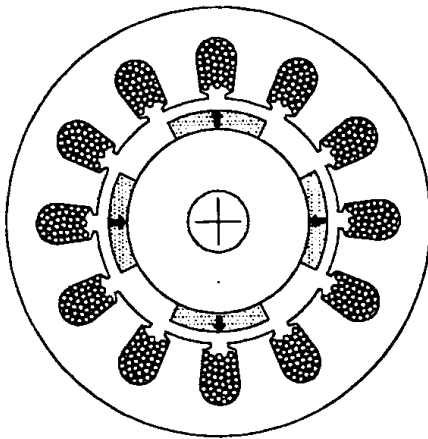

Figure 1
1. For the radial-field, 4-pole, 12-slot, surface-mounted permanent magnet machine shown schematically in Figure 1, the major dimensions and parameters are listed in Table 1, (full marks will not be given if the appropriate approximations are not specified)
- a. Derive the general expression for airgap flux density on load and on open-circuit (6)
- b. Calculate the magnetic loading (3)
- c. Calculate the tooth flux density and comment on the result (3)
- d. Calculate the back-iron flux density and comment on the result (3)
- e. Calculate the electric loading if the total ampere turns for the 3-phase windings are $NI=5000A$ (2)
- f. Calculate the electromagnetic torque at the level of electric loading in part (e) (3)